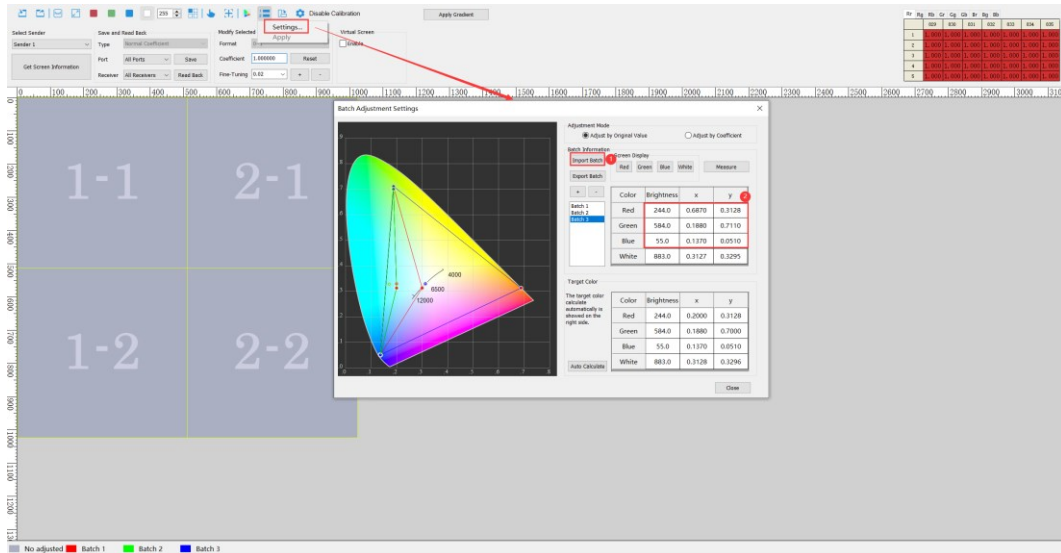

Fig 8.3.6 Set batch information
- Step 1: Click 1 and select **Settings** to open the **Batch Adjustment Settings** dialog box. Select an adjustment mode, add a batch, and modify input values or import batches to set batch information, as shown in Figure 8.3.6.